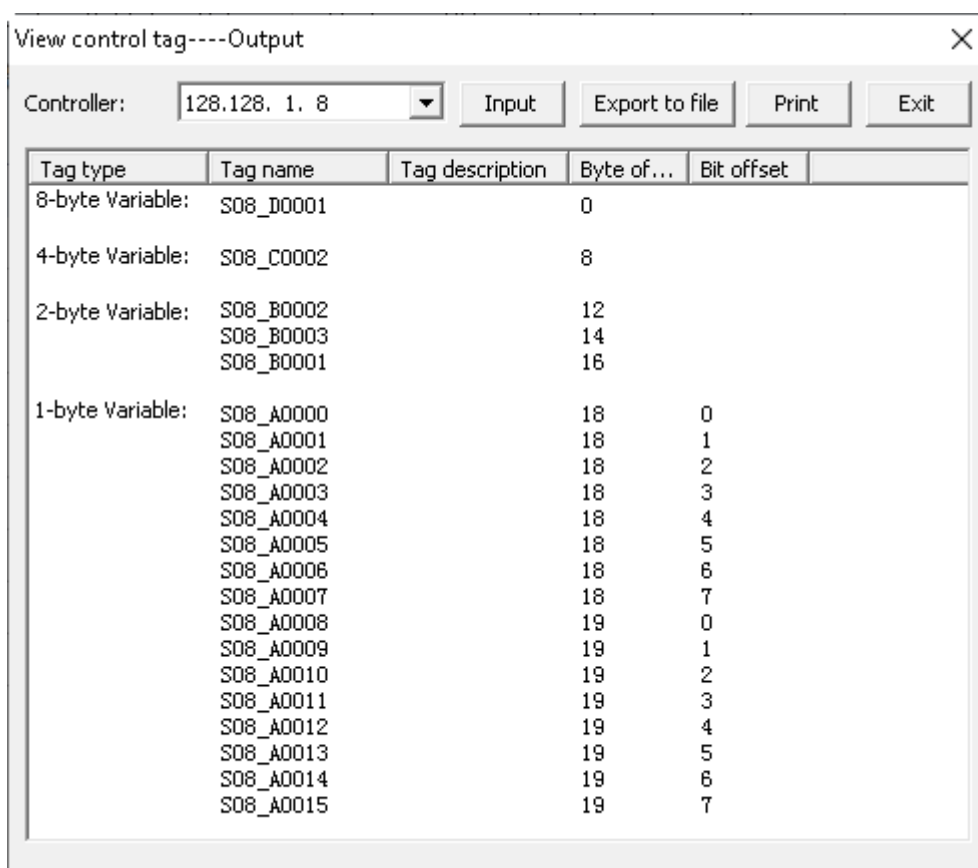

Figure 4-43 View controlled tags window
- Select “**View Tags of Control Scheme**” to view all input controlled tags. Click “Input/Output” to view the various types of controlled tags. As shown in Figure 4-43